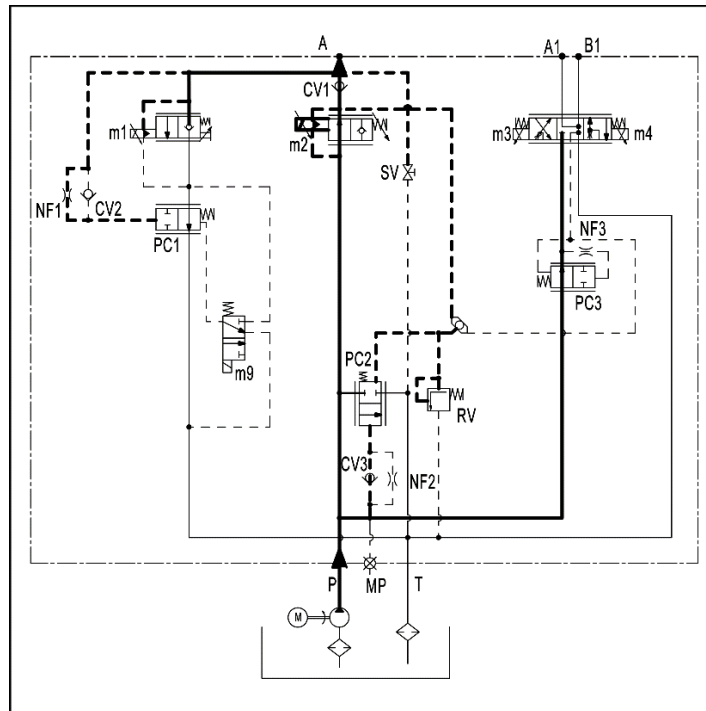

Figure 20: Hydraulic Schematic Diagram of Mast Lifting Operation
Refer to Figure 20.
4. When the auxiliary cylinder reaches the end of its stroke or encounters a blockage causing a pressure increase, the pilot pressure downstream of the throttle valve reaches the relief pressure and remains constant. The pilot pressure upstream of the throttle valve continues to rise, moving the PC3 spool to the left and reducing the valve opening. Simultaneously, the PC2 spool moves upward, opening the valve port wider and diverting excess oil to the tank via port T, similar to the role of PC2 during the lifting operation in Figure 20.